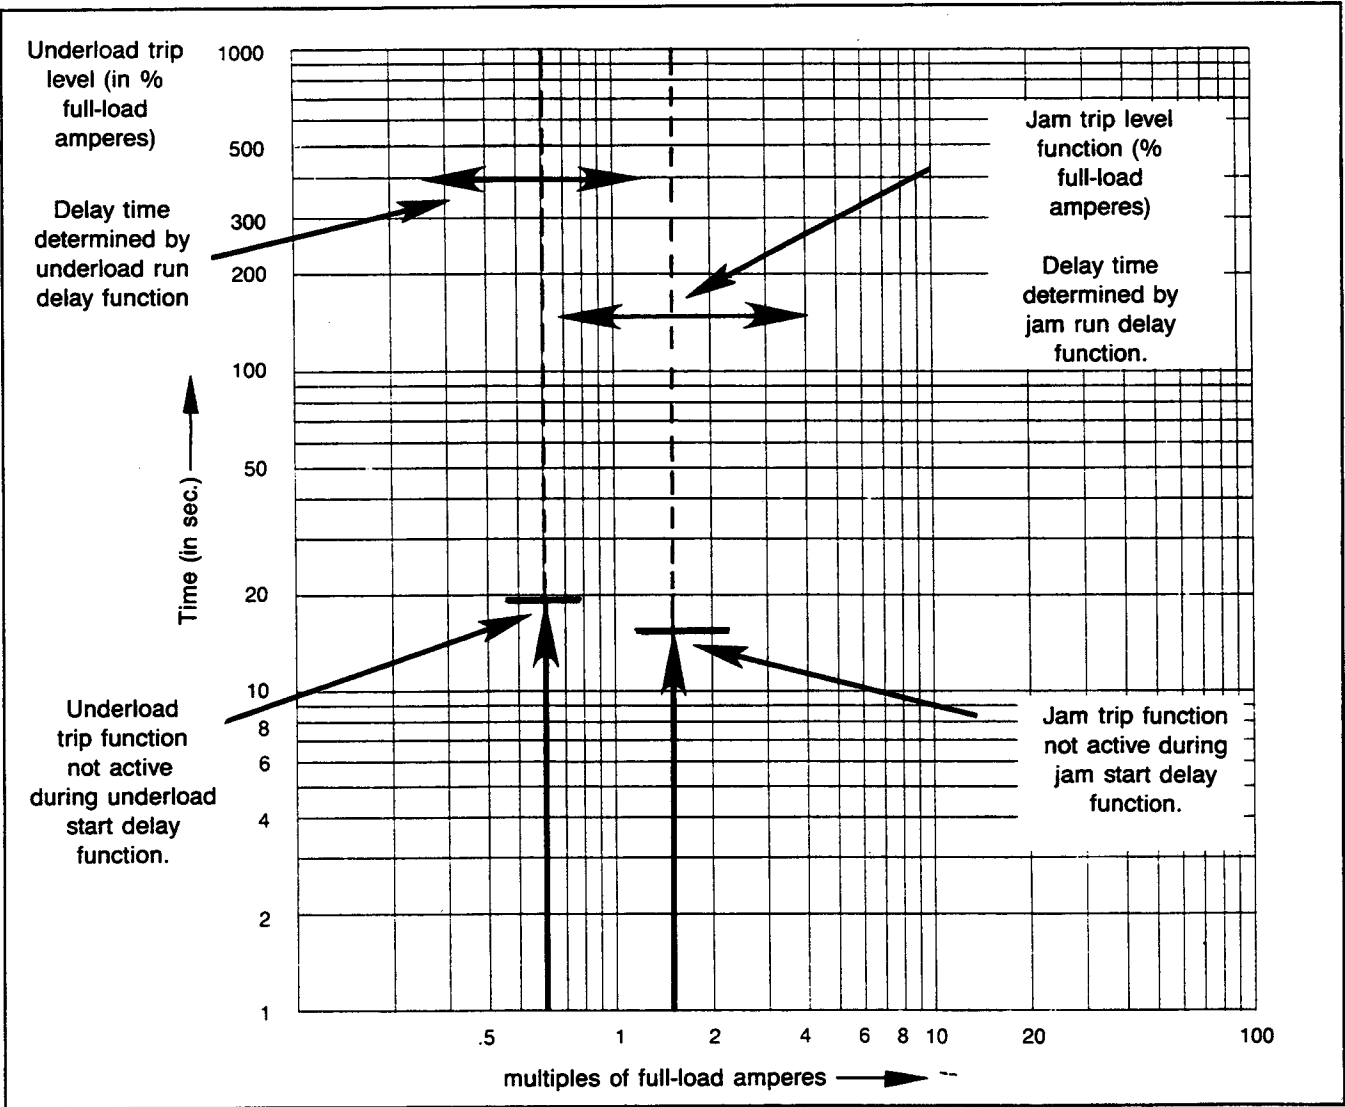

Figure 7.3—Jam Protection
7.1.3.5 Jam Functions — Once the motor is running, if the monitored current level exceeds the set point entered for the jam trip level (item 17), a trip occurs. (See Figure 7.3 in which the jam set point is 180% of full-load current.)